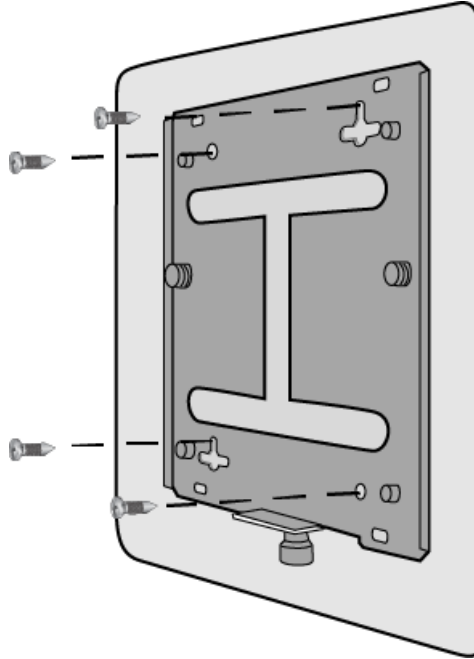

Figure 9. Mounting the Base Plate to the Wall
4. Attach the base plate to the wall or ceiling using self-tapping screws. Refer to Figure 9.